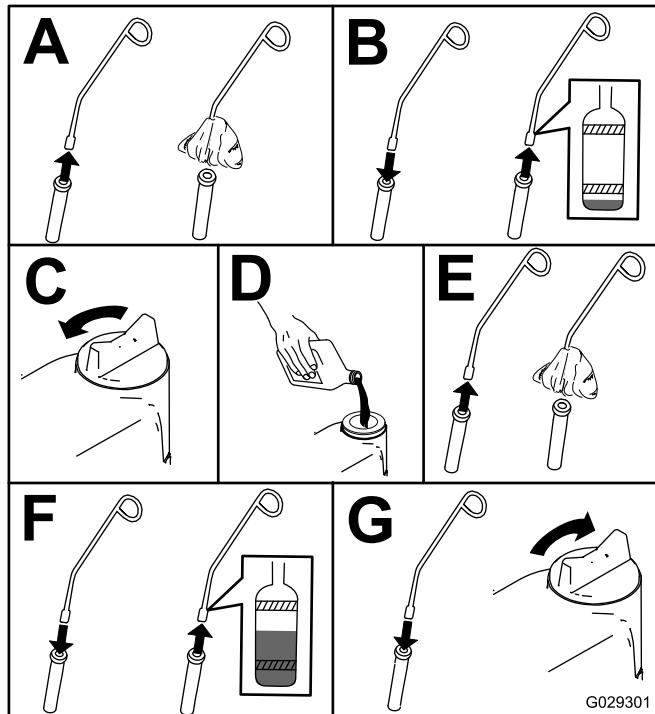

Figure 26
- Check the oil and add additional oil as needed (Figure 26).